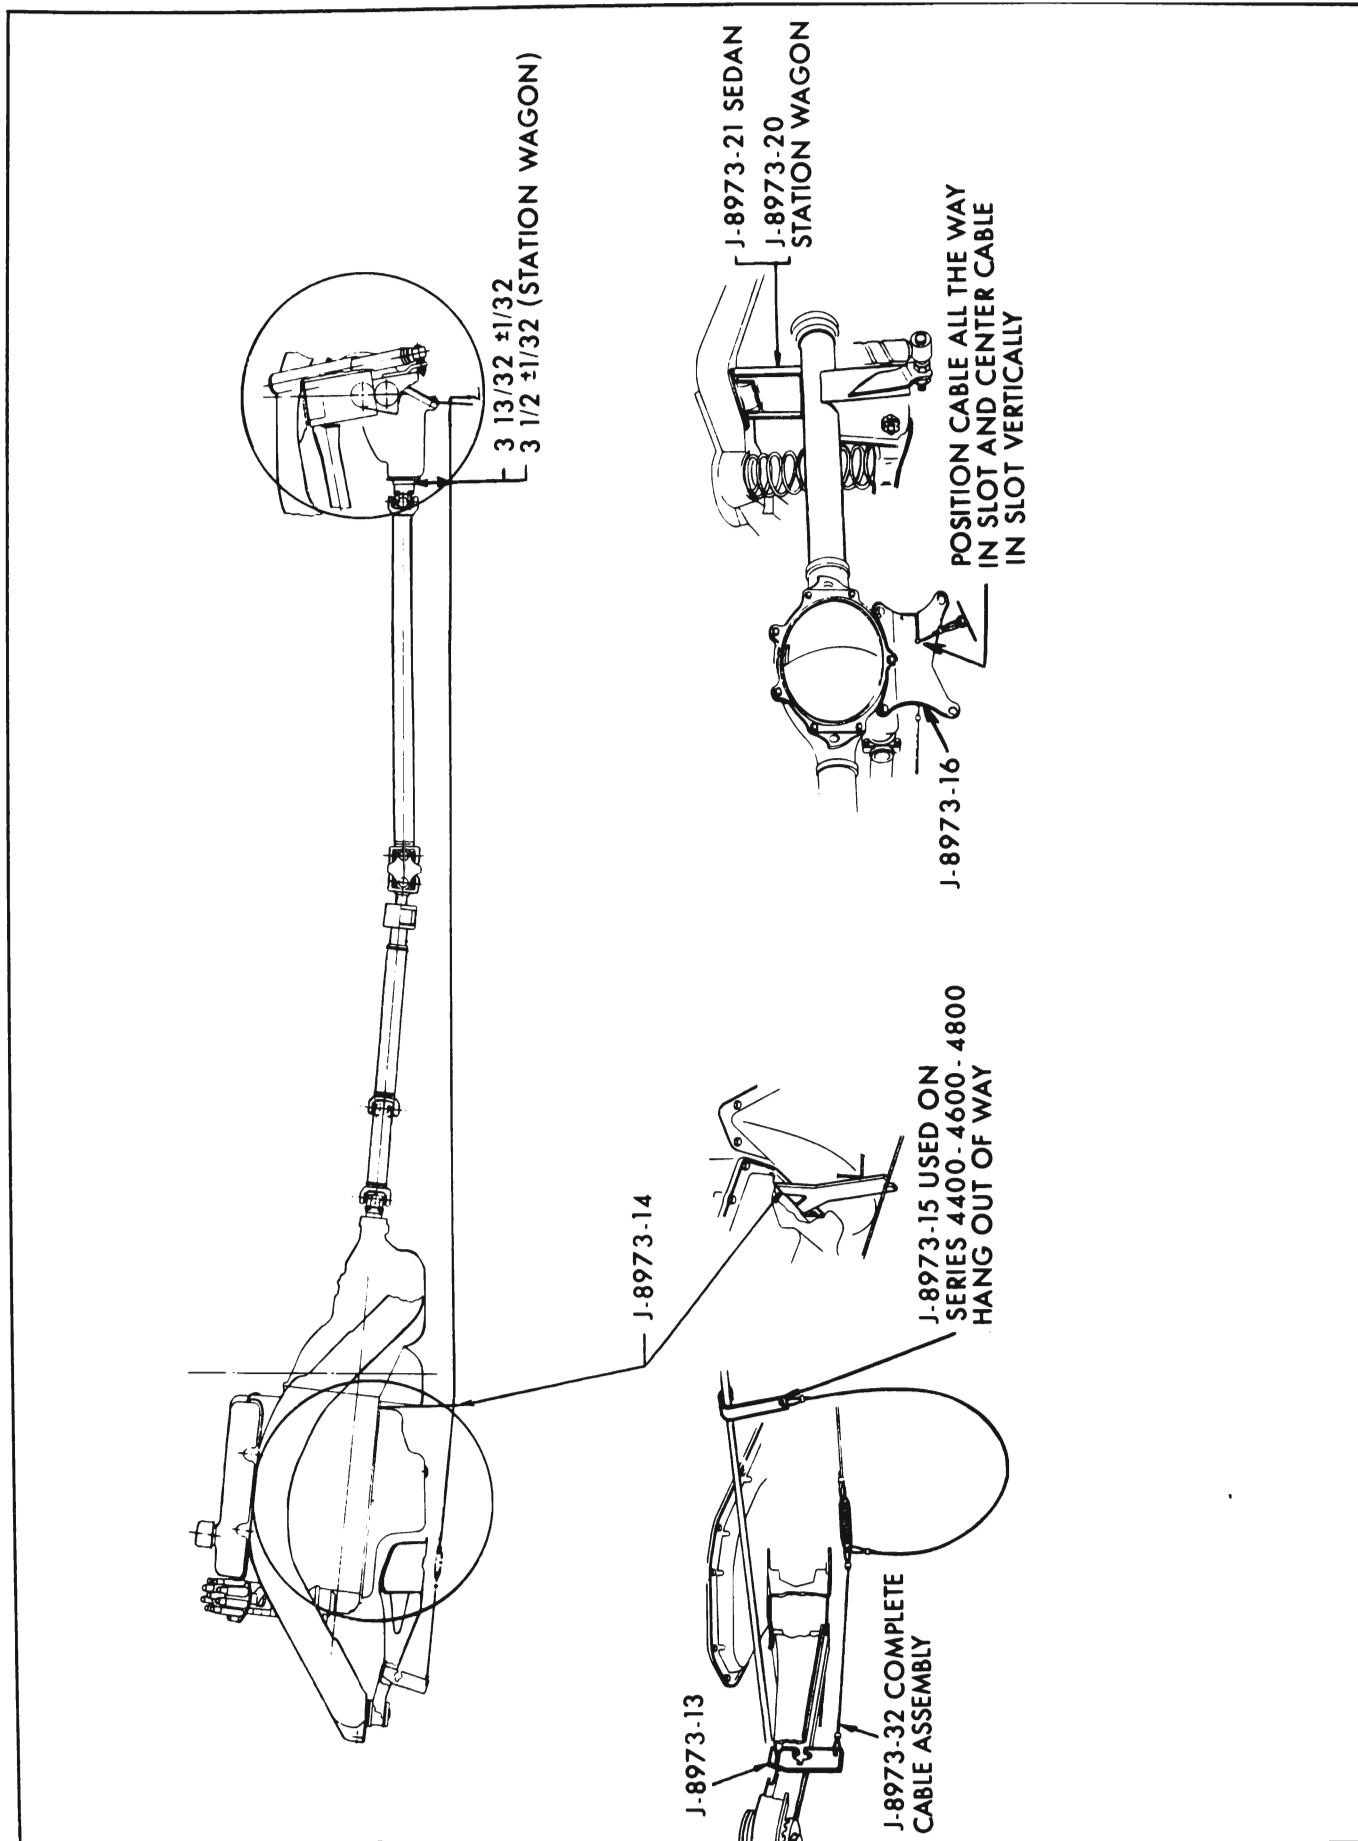

Figure 6-79—Checking Rear Universal Joint Angle
3. Engage front attaching bracket J-8973-13 in front cross member assembly using hole immediately to rear of front mount. Hook slot of bracket into rear of hole. See Figure 6-79.
4. Place Engine Height Plate J-8973-14 so that the upper end bears against the engine oil pan between the two rear oil pan bolts. See Figure 6-79. Place the cable in notch of height plate, pull cable tight and hook into rear bracket so one of the stops on the cable is to the rear of the bracket slot. It is important that the cable is fully in the slot and is taut and free of kinks.